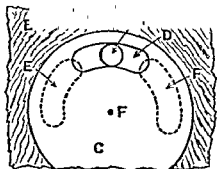

FIG 10
are now on the market. The simplest form of shutter in common use to-day is the one-speed to and fro pattern (Fig 10). (A) is the lens in the camera front (B), in front is a circular or other shaped plate (C) which revolves on a pivot (F) but does not make a complete revolution. In it is an aperture (D) which passes before the lens thus making the exposure. Before the exposure the lens is covered by the plate the aperture being at (E or F), by means of a lever the plate is partly rotated—bringing the aperture to the opposite side. The speed is usually about  $\frac{1}{25}$ th of a second. There is also an arrangement for causing the aperture to remain opposite the lens for a certain period, so as to give "time" exposures.